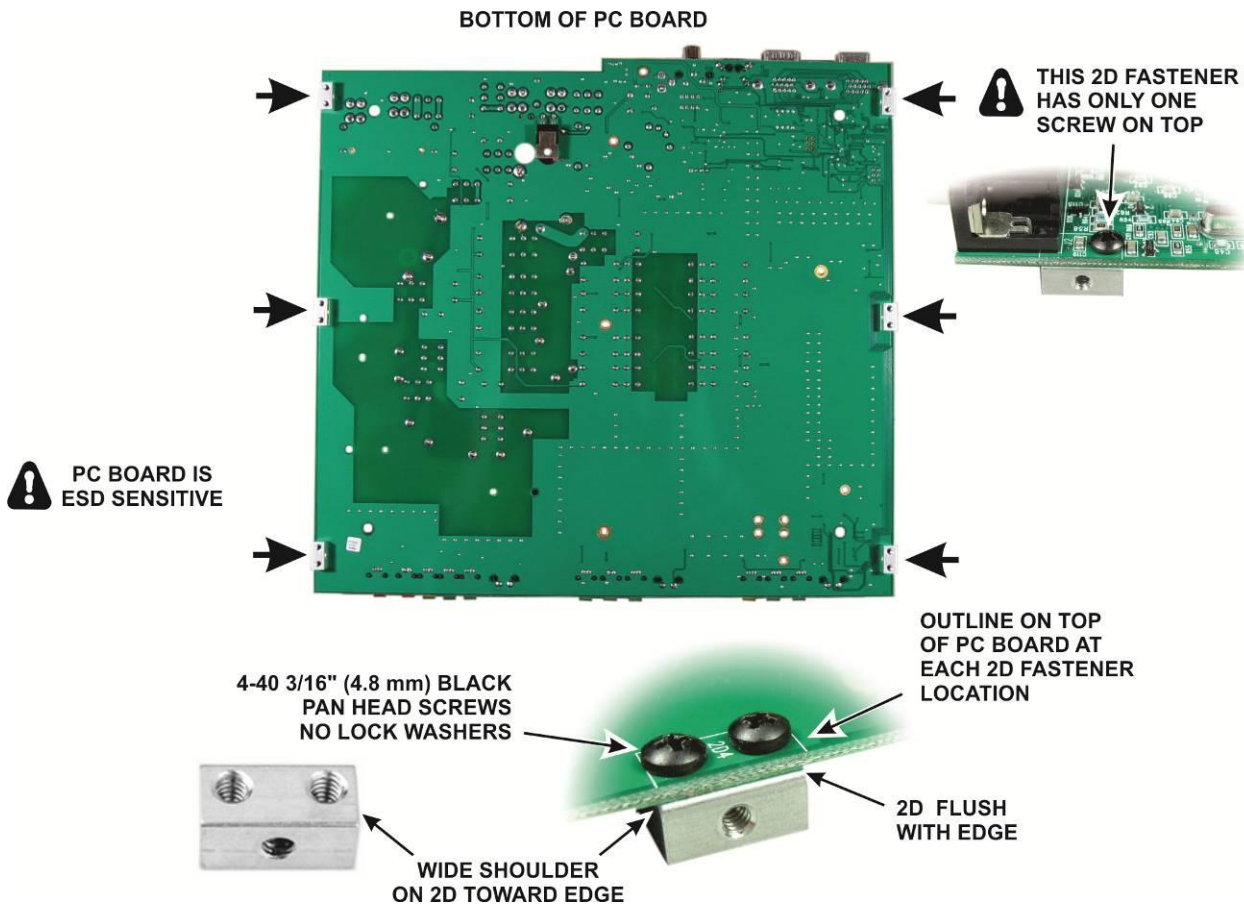

Figure 7. Installing the 2D Fasteners.
- ❑ Taking ESD precautions remove the printed circuit board from its ESD-safe envelope and install six 2-D fasteners as shown in Figure 7. Be careful not to disturb any of the inductors on the top side, especially the air wound coils, or the position of the resistor mounted on the bottom.
- The 11 screws along the sides of the pc board (Figure 7, page 24).